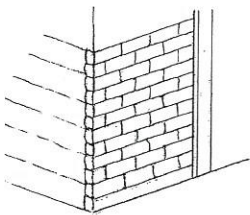

Figure 1a: Thin veneer with no side return is not allowed
- Vertical material separations shall extend at least 18" around corners and returns (Figures 1a and 1b).